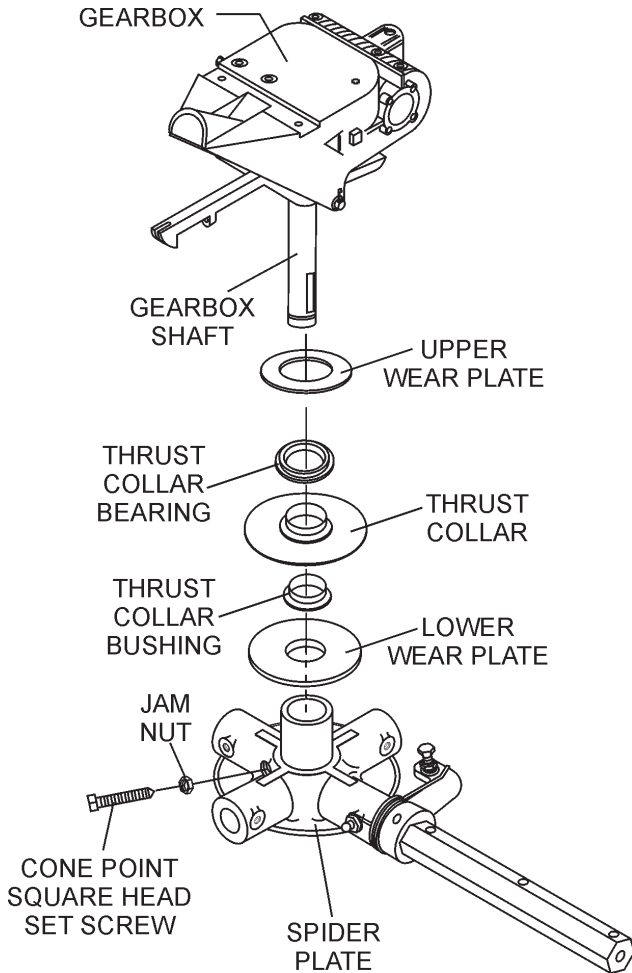

Figure 41. Spider/Gearbox Removal
- a. Locate the cone point square head set screw (Figure 41) and attached jam nut found on the side of the spider assembly.